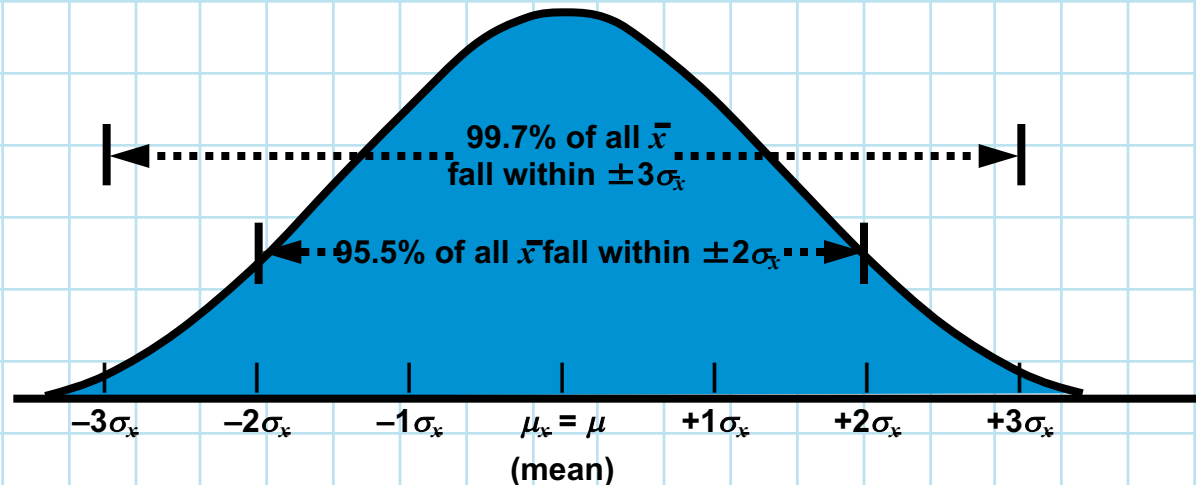

Figure 16.2
- Figure 16.2 shows three possible population distributions, each with their own mean (μ) and standard deviation (σ_x).